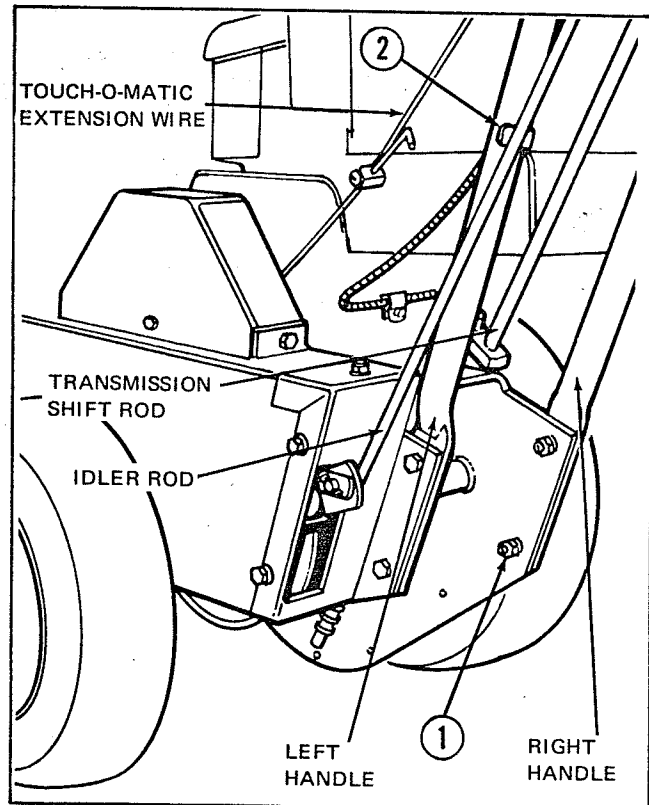

Figure 1
1. Fasten the handle assembly to the frame assembly as shown at (1), Figure 1, using the (4), 5/16-18 x 7/8" capscrews, 5/16" lock washers and 5/16"-18 N.C. hex nuts.
2. The throttle cable assembly is coiled around the engine for shipping purposes. Uncoil the cable and attach to the housing assembly using the (2) 1/4" x 1/2" self-tapping screws. The cable is held in place by the clamp on the lower portion of the left handle as shown at (2), Figure 1.